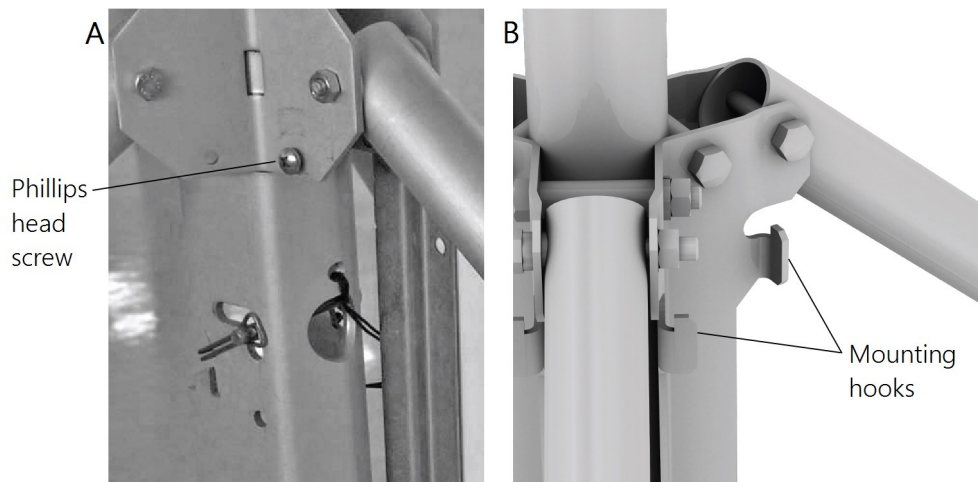

FIGURE 6-14. Upper mount location on CM110 (A) and CM106B (B)
1. For the CM110, slide the keyhole notch in one of the upper corners of the –LM mounting bracket over the extended Phillips head screw located on the tripod (see A in FIGURE 6-14 (p. 20)). The CM106B, CM106BK, CM106 and CM106K have mounting hooks extending from the tripod body in place of the Phillips screws (see B in FIGURE 6-14 (p. 20)).